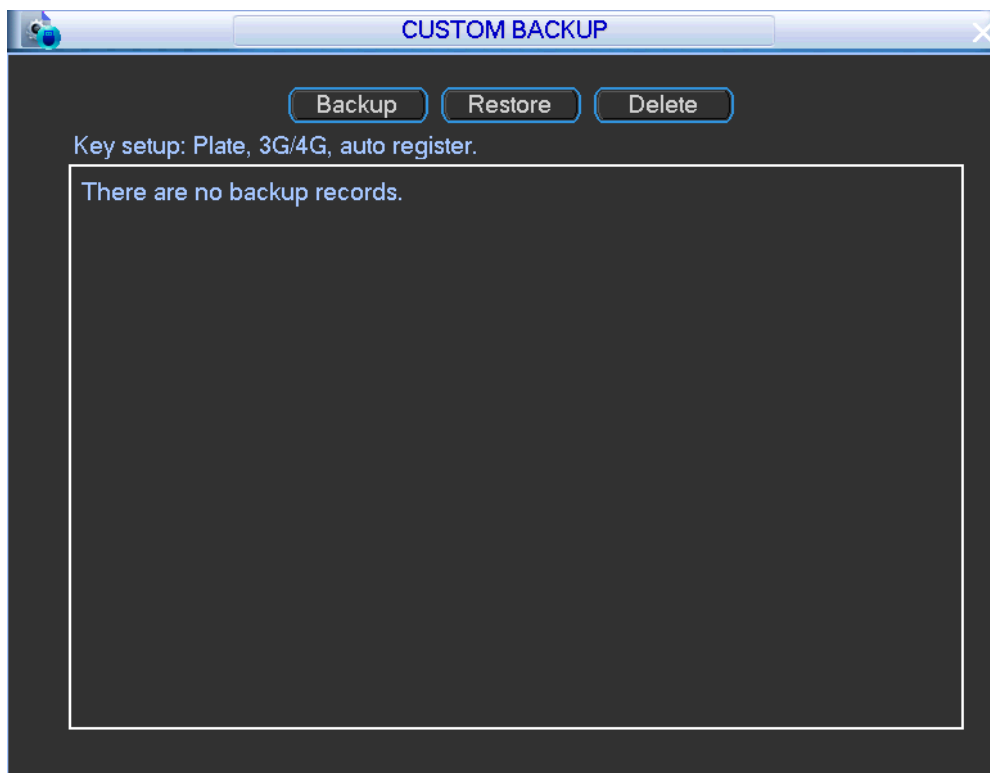

Figure 4-95
Step 1 From main menu->Vehicle->Custom default, enter custom default interface. See Figure 4-95.